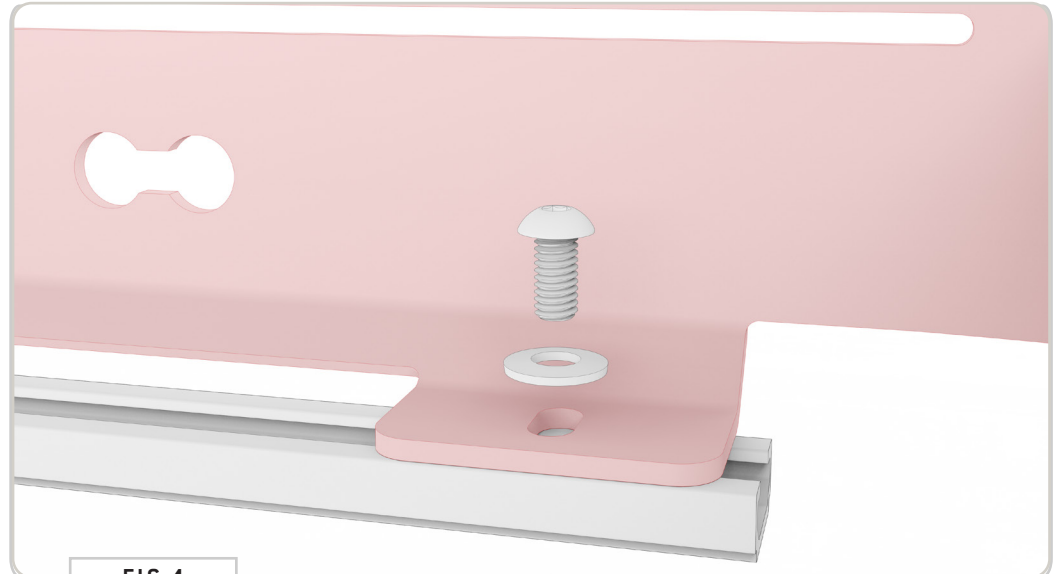

FIG 4
**2.1 Install Side Rails:** Beginning with the forward section of the rack (see FIG 5 for layout), start loosely attaching the side rails to the roof rails using the **3/8-16" Button Head Screws & 3/8" Lock Washers**, but do not tighten them all the way down yet (FIG 4). If you are not installing a **Side Ladder** at this time, install the **Side Ladder Access Cover** in the location shown in FIG 5.